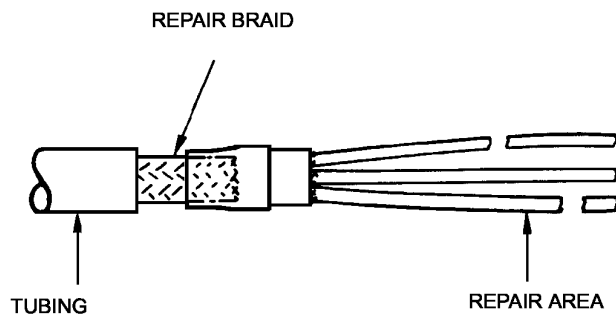

Figure 11. Tubing and Braid Placed on Cable End
j. Slide tubing and braid from shield repair kit, over either cable end. Tape tubing and braid to bundle to hold in place (Figure 11).